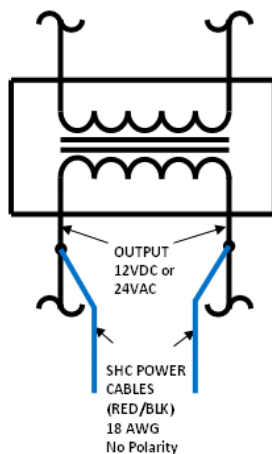

Figure 8: System Transformer: AC or DC Supply
In most cases, there will be a 24V transformer mounted in the control box of the indoor AC unit (evaporator). The transformer will likely be labeled to identify the secondary voltage terminals. See Figure 8: System Transformer.
10. Connect one cable to each of the two secondary transformer terminals. See Figure 8, System Transformer.